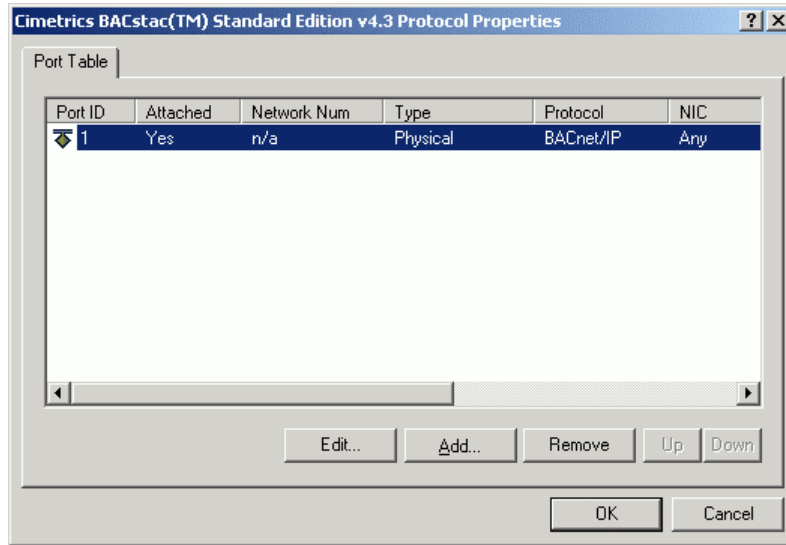

Fig. 2-15: Properties of the BACnet Service
8. Click on **[Edit...]** to open the configuration of the BACnet Service (see Fig. 2-15).